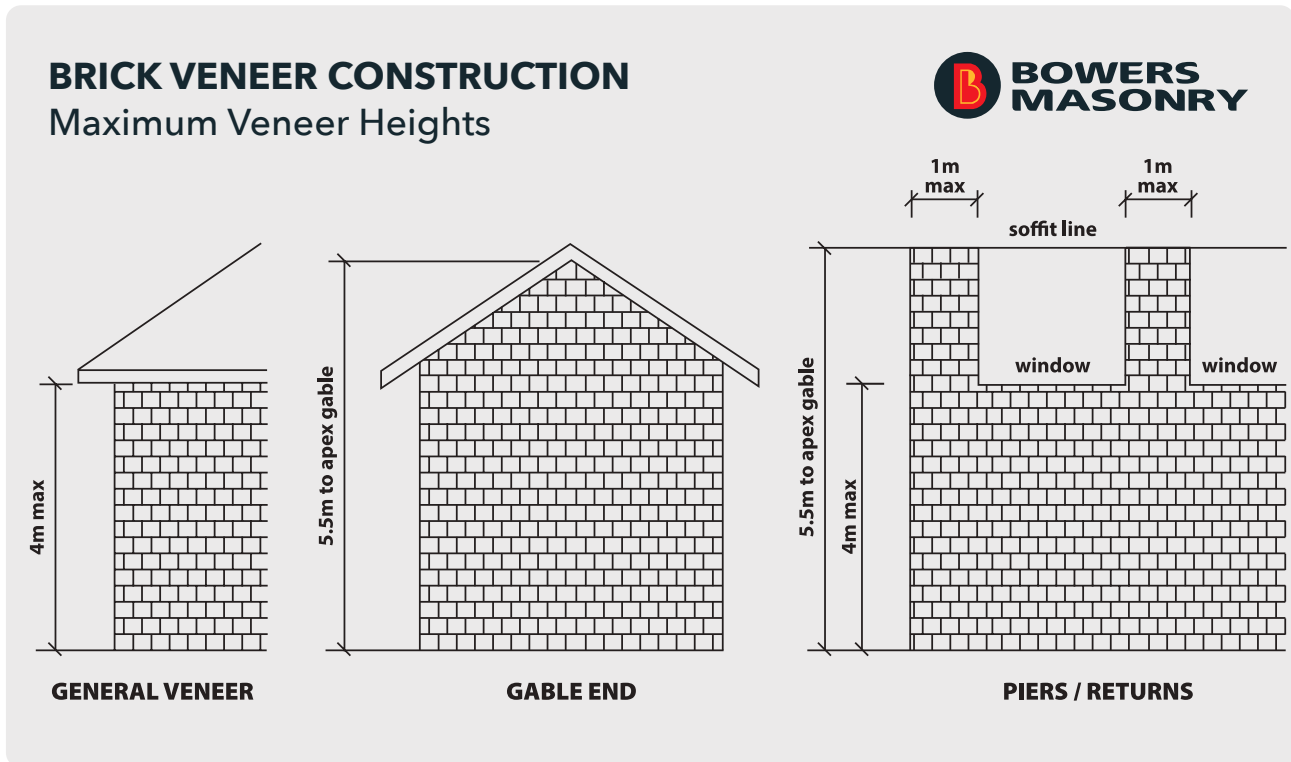

Figure 1 – Maximum veneer heights for single storey, running-bonded construction - diagram sourced from Brick & Paver Manufacturers association
- The maximum height for a single storey veneer is limited to 4m from the foundation. At a gable wall or pier (see figure 1 below), the maximum height may extend to 5.5m.